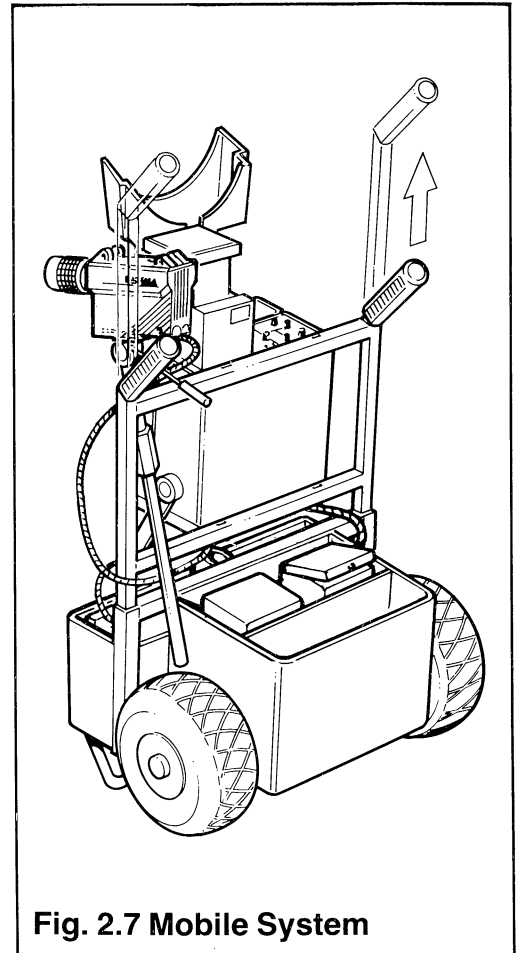

Fig. 2.7 Mobile System
- (c) **Mobile System.** The transport cart (option) is a lightweight two wheeled cart designed for easy transportation of the Thermovision[®] system. It has the advantage of providing a mobile yet stable base so that the Thermovision[®] system can be operated either on the cart or alternatively, the scanner may be removed from the cart and operated separately using a fixed tripod. The transport cart has a position to mount the Display Unit and compartments are fitted to enable the operator to transport Polaroid films, recording camera, battery power packs and video equipment. The cart has a telescopic handle that may be retracted to enable the complete equipment and cart to be easily transported. Figure 2.7 shows the transport cart with the equipment fully installed. It is essential that the batteries are positioned to the front of the transport cart, ie. ahead of the wheel axle to ensure an even weight distribution and good balance.